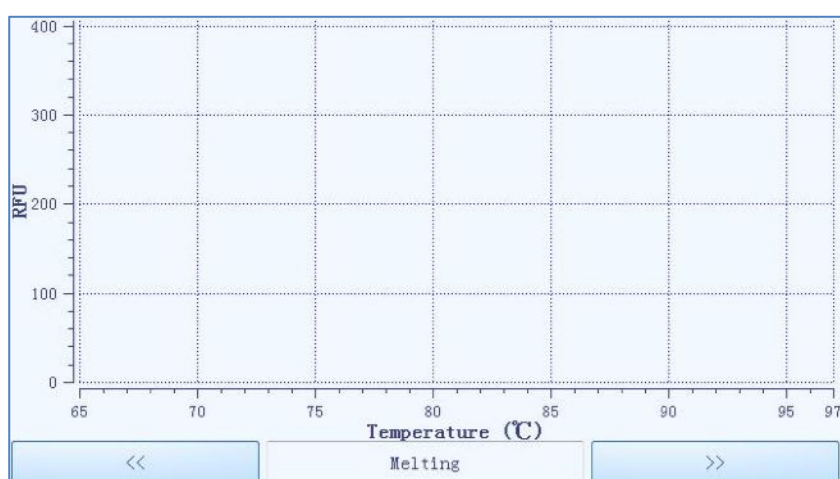

Figure E-5.2 Run Monitoring Diagram - Real-time Melting Curves
- b. Users can press >> key below the run monitoring diagram to monitor the real-time **Melting** curves of the current experiment, as shown in figure E-5.2.